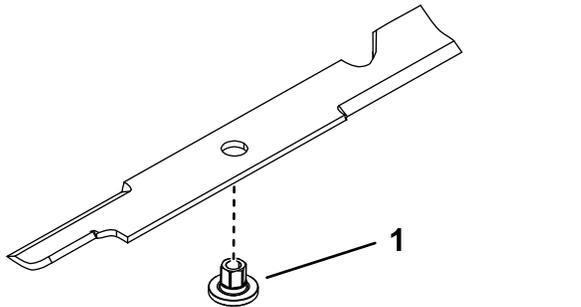

Figure 109
1. Install the bushing through the blade with the bushing flange on the bottom (grass) side of the blade (Figure 109).